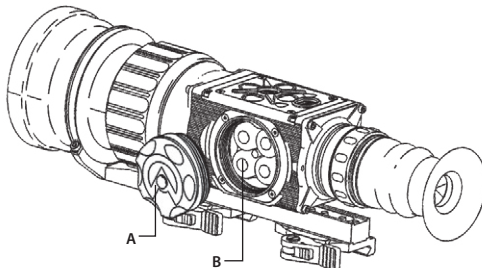

FIGURE 3-1. CR123 BATTERIES INSTALLATION
Install four (4) CR123A batteries as follows (refer to Figure 3-1):
1. Unscrew the battery cap (A).
2. Insert the batteries (B) directly into the battery case with ALL positive terminals facing upward (or in the direction of the battery cap)